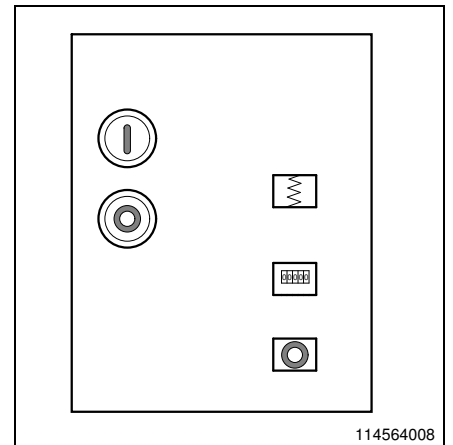

Fig. 22
- The indicator window shows "0" (Fig. 22).